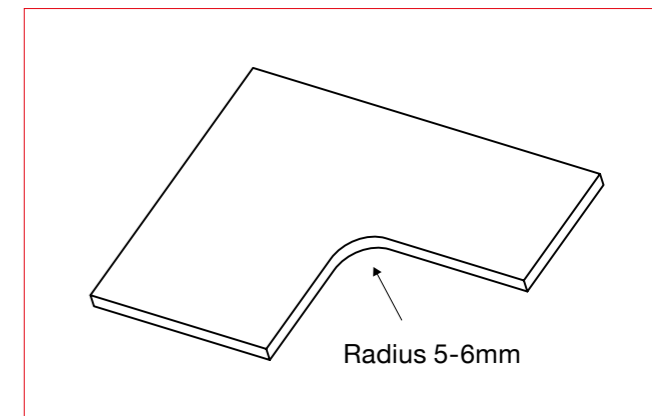

fig.10 – rounded corners of cut outs
- Round off corners at cut-outs to avoid stress cracks or cracking, recommended radius of 5-6mm (see fig.10)